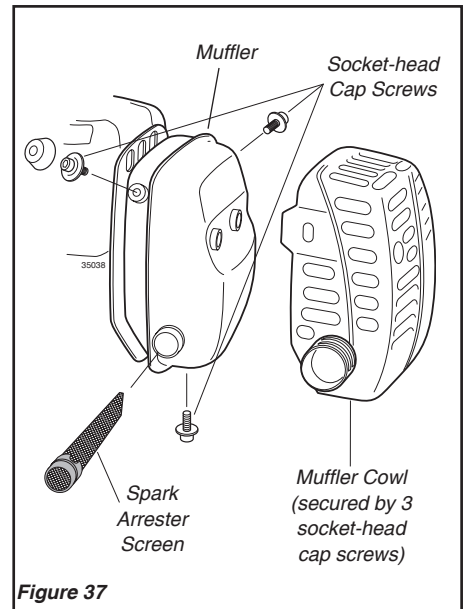

Figure 37
1. Remove the 3 socket-head cap screws retaining the muffler cowl and remove the cowl. See Figure 37.